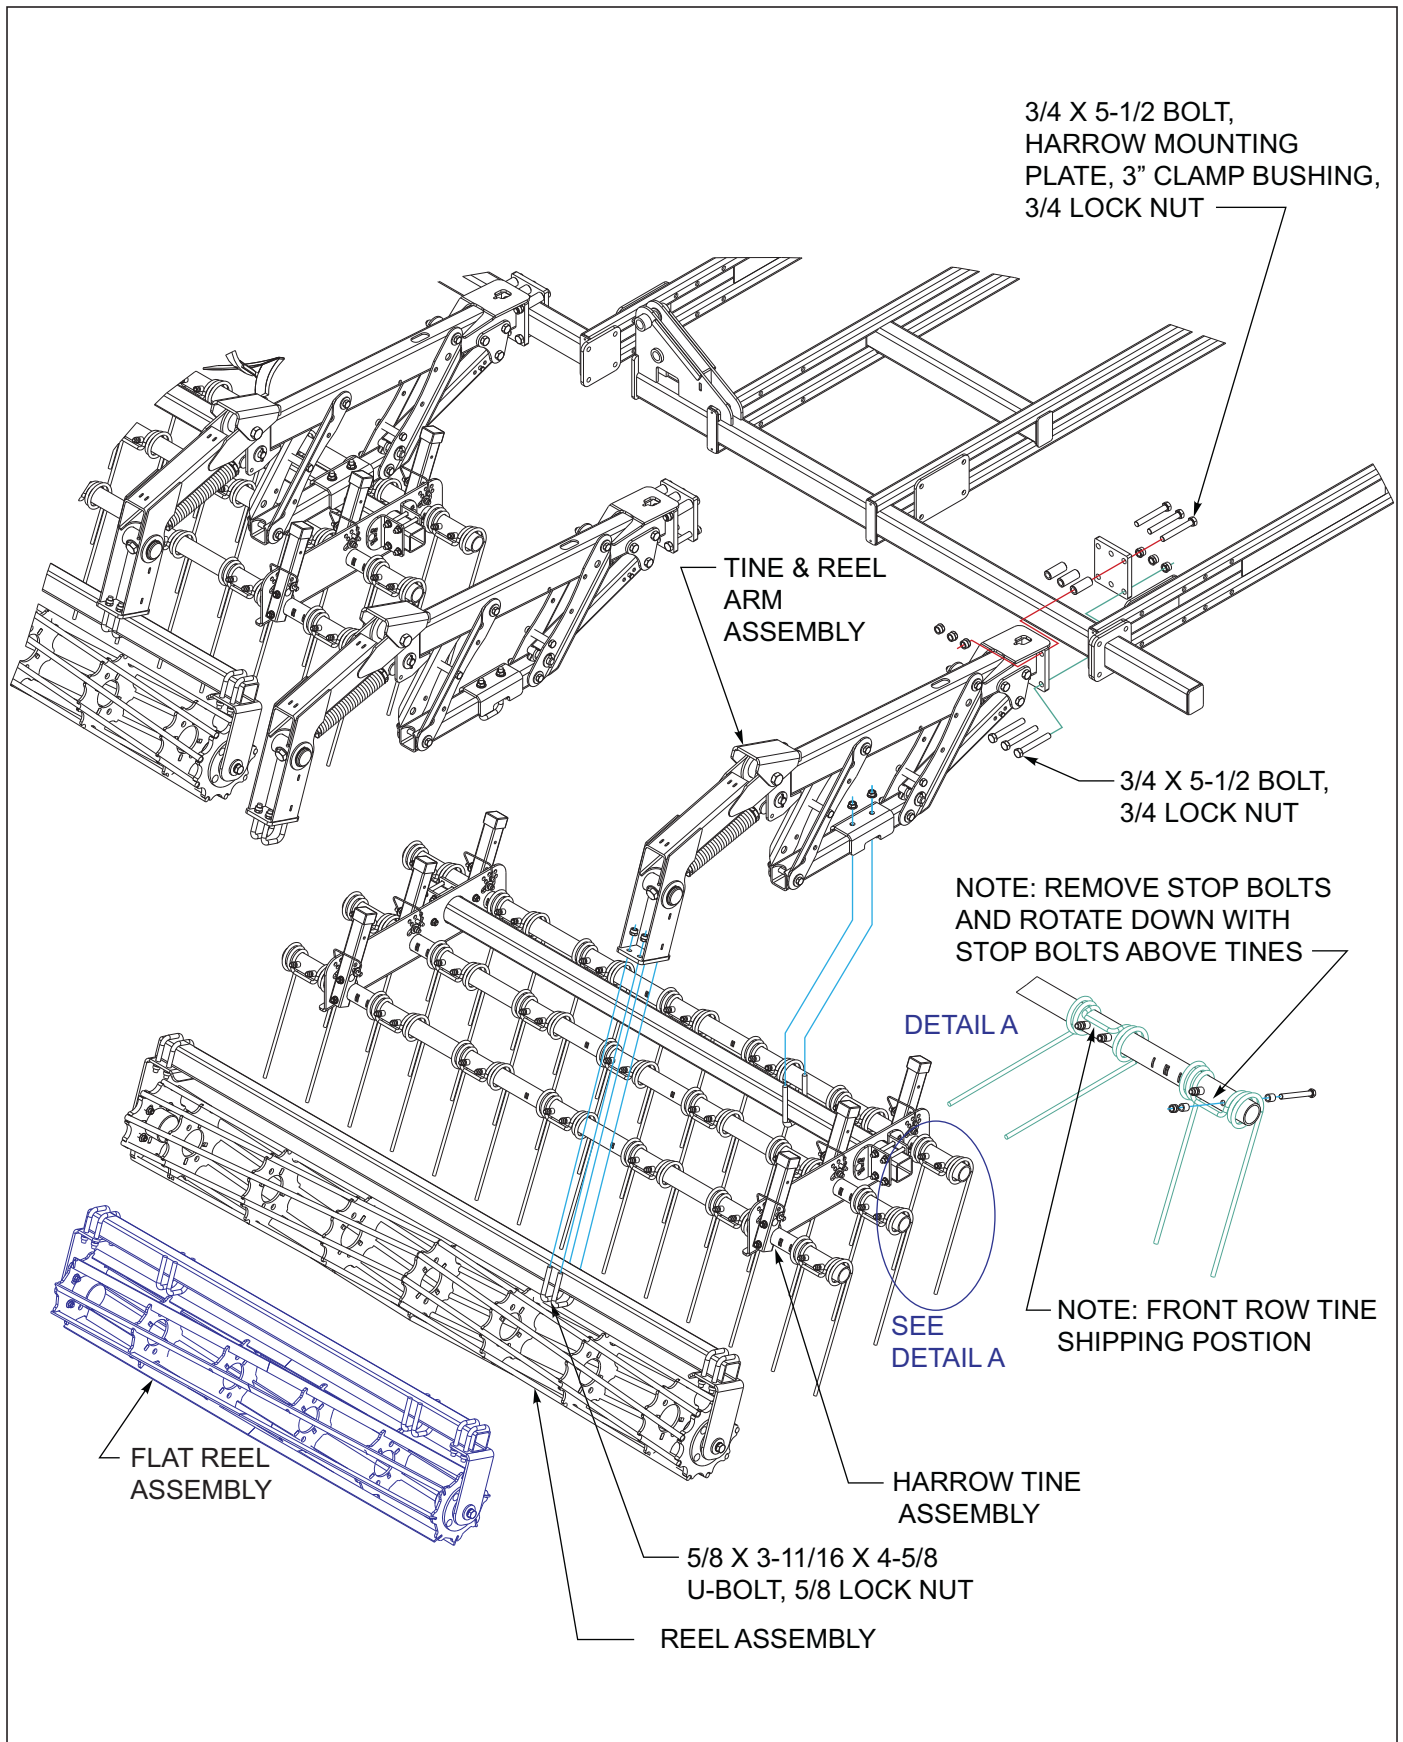

Figure 3-31: 3 Row Coil Tine and Reel Harrow Installation
1. Attach the tine/reel arm assemblies to the rear tube of the center and wing frames using harrow mounting plates, 3/4 x 5-1/2 bolts, clamp bushings and 3/4 lock nuts *See Figures 3-31*. Clamp bushings are installed on the top mounting bolts.